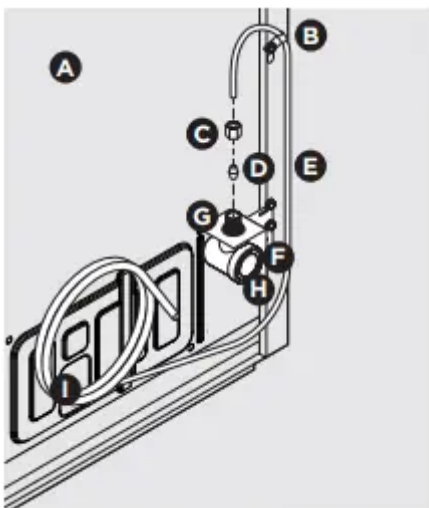
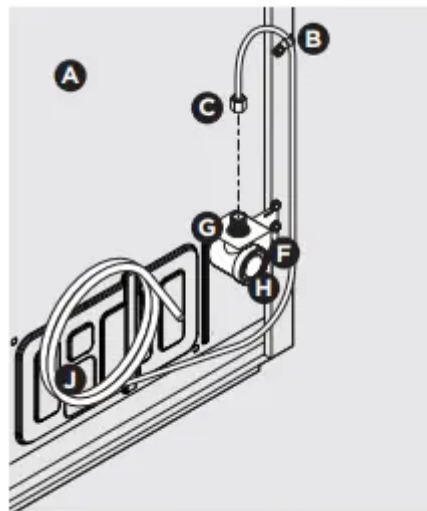

Figure 1
Figure 2
4. If you use copper tubing - Slide the brass compression nut, and then the ferrule (sleeve) onto the water supply line. Push the water supply line into the water valve inlet as far as it will go ( $\frac{1}{4}$ "/6.4 mm). Slide the ferrule (sleeve) into the valve inlet and finger tighten the compression nut onto the valve. Tighten another half turn with a wrench; DO NOT overtighten. See Figure 1.
If you use braided flexible stainless steel tubing - The nut is already assembled on the tubing. Slide the nut onto the valve inlet and finger tighten the nut onto valve. Tighten another half turn with a wrench; DO NOT overtighten. See Figure 2.
- B- Steel Clamp (Fig. 1:  $\frac{1}{4}$ "; Fig. 2:  $\frac{1}{2}$ " )